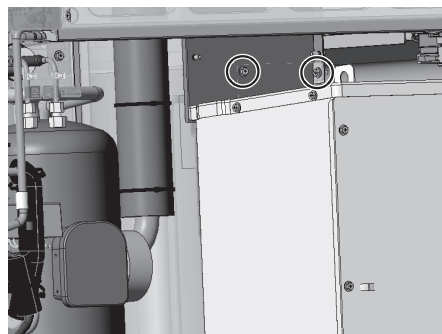

Figure 6
- (6) Remove the inverter cooling duct by unscrewing the two screws. (See Figure 6. Applicable to the S-module only)